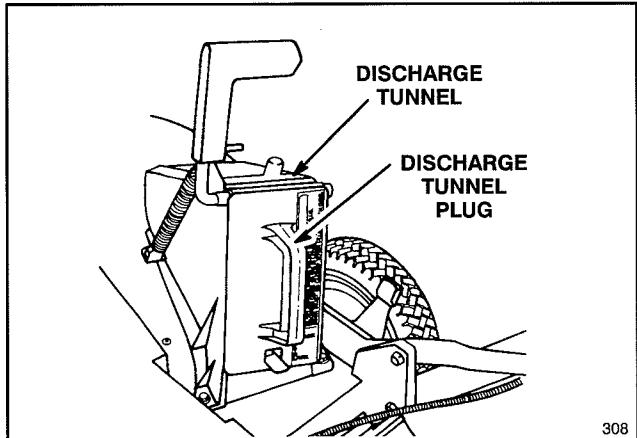

Figure 28
- 1. Rear Bagging Kit (Model 59174 for self-propelled models, Model 59179 for hand push models)**—Install discharge tunnel and rear mounting grass bag to convert Recycler® II Super Pro® mower to a rear bagging mower (Fig. 28). Includes discharge tunnel plug.